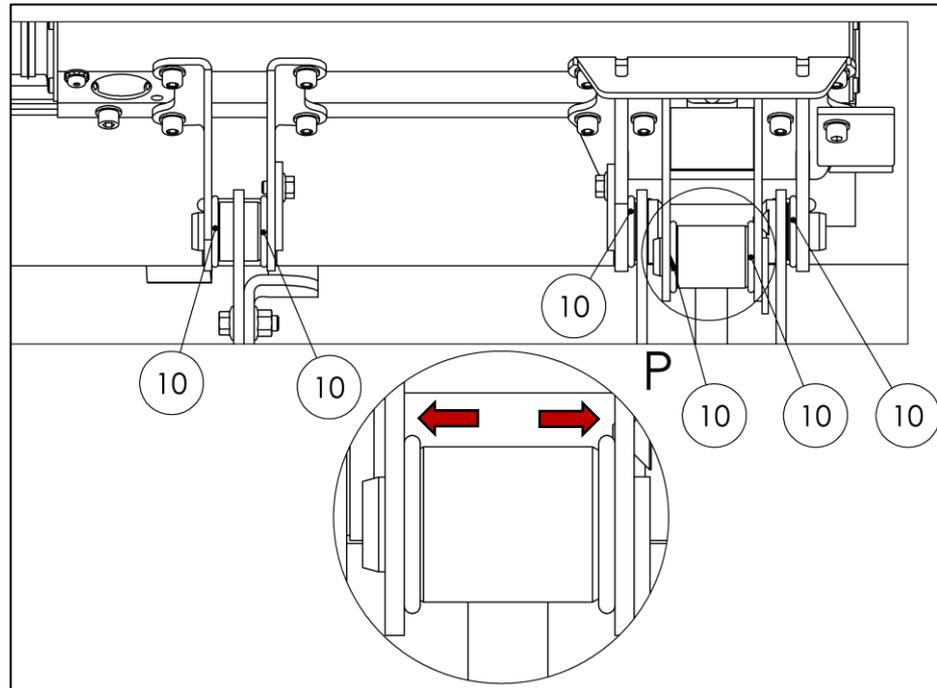

Fig. 63
- Move the 6 pre-fitted O-rings (accessories kit parts list – Item No. 10) into their correct positions (see Fig. 63).